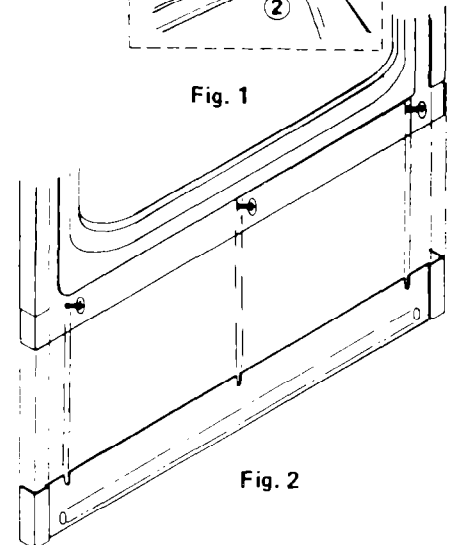

Fig. 2
- C. The bottom trim strip is placed on lower edge of front frame. This is done by loosening the three screws at the bottom of the front frame. Slide the trim strip under the screw heads until the strip meets the lower corners of the front frame (See Fig. 2). Tighten screws to hold to front frame.